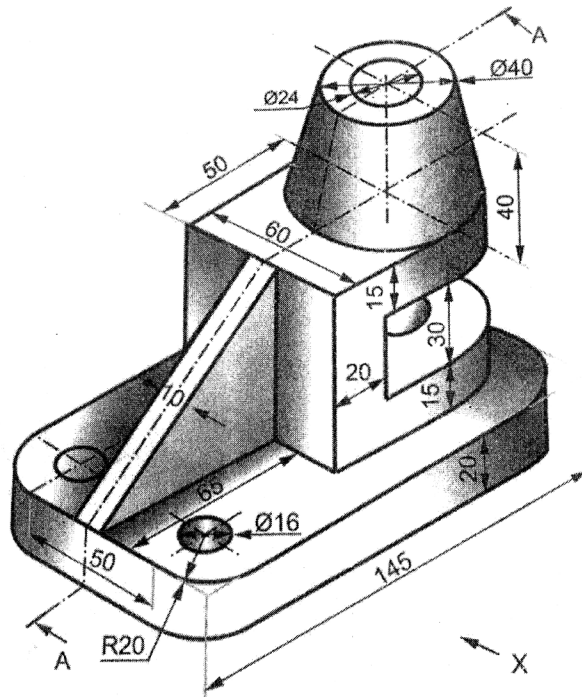

Fig. 1
3. Fig. 1 shows pictorial view of an object, using first angle method of projection, draw :